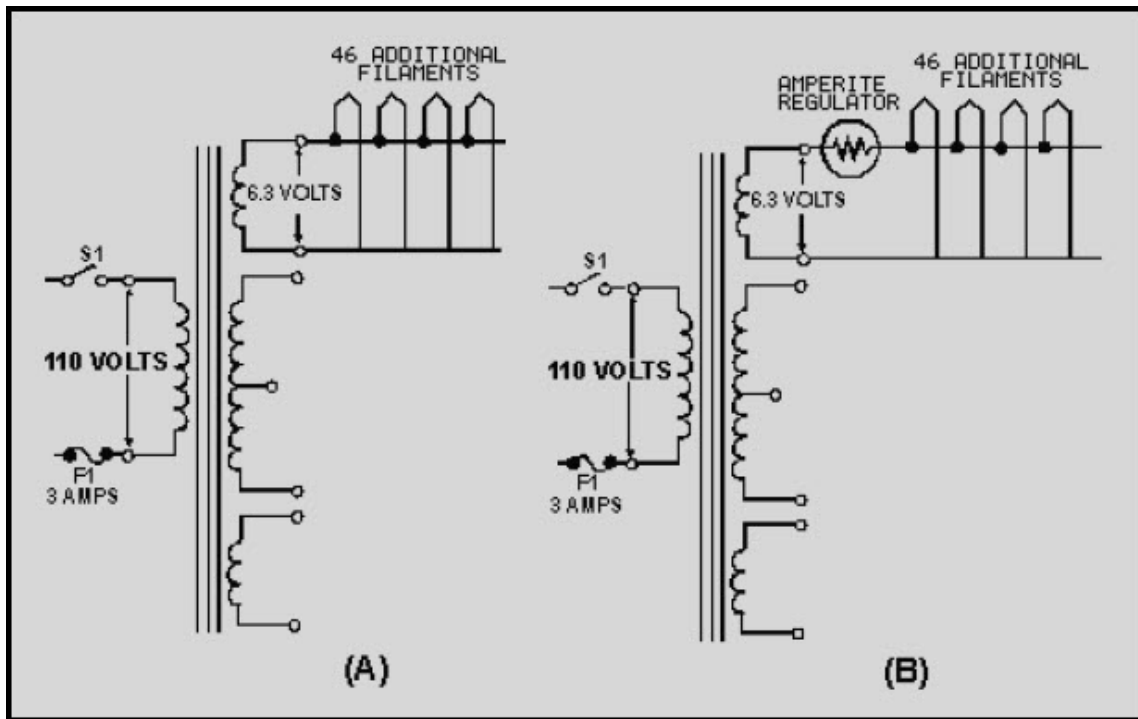

Figure 3-49 Amperite regulator
There are some cases in which current must be regulated or kept at a relatively constant value. The best example of this is the filament supply of a power transformer located in a power supply that is designed to supply filament power to many tubes. You can see this in view (A) of figure 3-49, which is a portion of a power supply designed to supply 50 vacuum tubes with both plate and filament voltages. Under normal conditions, circuit current will not exceed 2.5 amperes. For this reason, the power supply has been fused at 3 amperes. Because you are only interested in current regulation at this time, only the portion of the power supply that deals with current regulation is shown; namely, the power transformer and four of the 50 parallel connected vacuum-tube filaments. At operating temperatures, the resistance of each filament is 1 kilohm. Because the filaments are connected in parallel, the total filament resistance at operating temperature is 20 ohms. Ohm's law,
View (B) of figure 3-49 shows the amperite regulator connected in series with the filaments of the load. When the power supply is first energized, the iron wire of the amperite gets hot quickly and presents a large resistance connected in series with the 2 ohms of filament resistance. As a result, most of the voltage is dropped across the amperite. Because of the large resistance of the amperite regulator, current in the circuit is held to an acceptable level in accordance with Ohm's law: